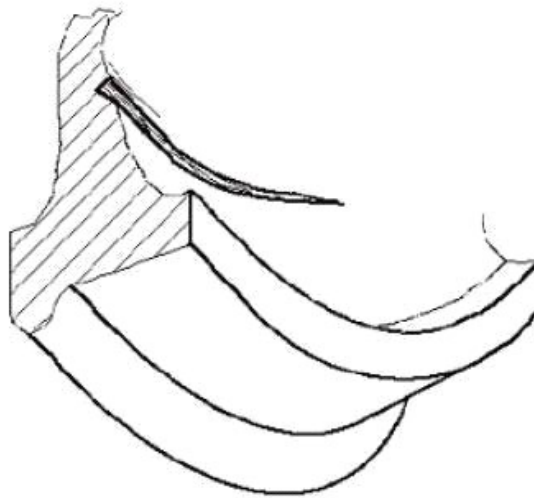

Figure 13
- sharp-edged circumferential defects on the web or wheel center as shown in Figure 13.